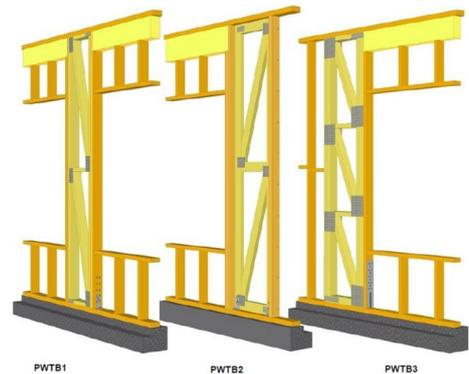

Fig 4 – Wall Truss Brace options
**Wall Bracing:** For design compliance, AS1684 requires wall bracing units to be evenly distributed across the building and the ceiling diaphragm to be checked for adequacy. This is not easy to achieve and therefore conveniently ignored unless sophisticated software (e.g. Pryda Build 4) is used for this purpose. Also, as the trend for open plan housing continues in our market, it is becoming increasingly difficult to achieve bracing adequacy using the traditional methods and products. Short wall lengths are a common place, especially along the front and rear facades of houses (see Fig 3) which require special engineered solutions involving wall truss braces like Pryda Wall Truss Brace (Fig 4) or portal frames.